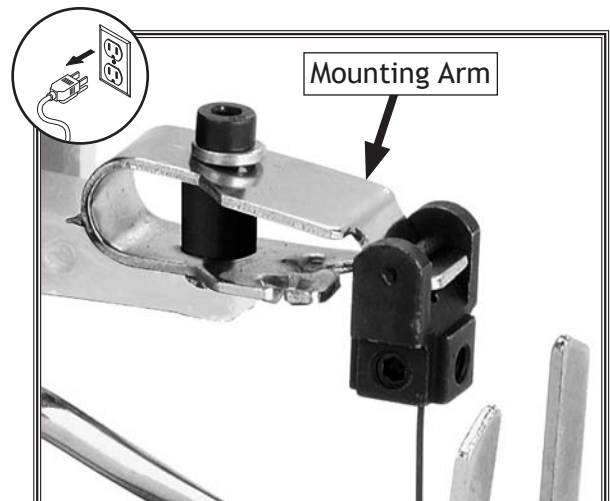

Figure 9. Plain end blade and adapter mounted on the upper blade holder.
8. Slide one end of the blade assembly through the table hole and place the adapter over the mounting arm of the blade holder, then press the upper blade holder down and mount the other adapter over its mounting arm (see **Figure 9**).